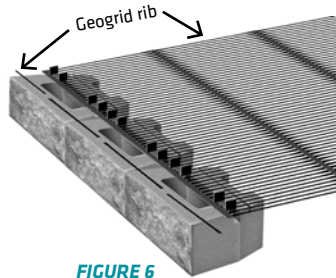

FIGURE 6
- ▶ For courses placed on a geogrid elevation, shims may be required on the unit's front face shell (Figure 6). The shims should be the same thickness of the geogrid rib. The material can be trimmed from the same roll of grid that is used in that particular course.
- ▶ To correct for slight differences in unit heights, a geogrid rib may be cut and placed on successive courses to bring the face and/or tail back to level. The “rib shim” and “finger shim” should be positioned on the inside of the unit's front face shell, generally within ½ in. (1.27 cm) of the unit's core (see shimming Figures 6 and 7). This will place less stress on the underlying block than would exist if the shim was placed near the unit's front face.